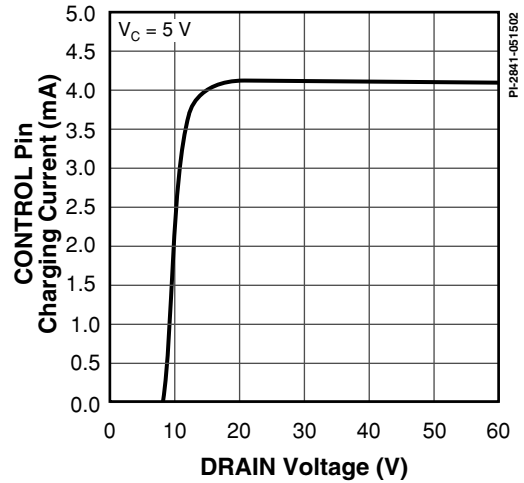

Figure 42. I_c vs. DRAIN Voltage.
- D. It is possible to start up and operate *DPA-Switch* at DRAIN voltages well below 16 V. However, the CONTROL pin charging current is reduced, which affects start-up time, auto-restart frequency, and auto-restart duty cycle. Refer to Figure 42, the characteristic graph on CONTROL pin charge current (I_C) vs. DRAIN voltage for low voltage operation characteristics.